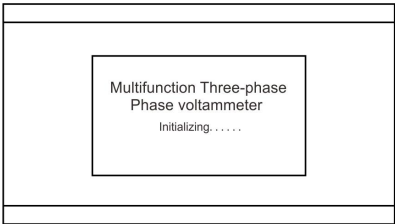
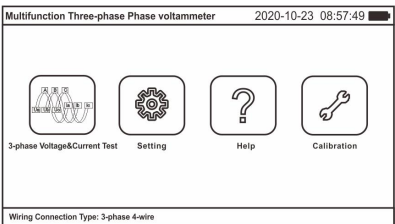

Figure5 Initialize interface
Figure6 Main interface
6.1.1.Power on. The meter is power off state, press the power key to start on, and enters the start-up interface, as shown in Figure 5. After the initialization is completed (about 5 seconds), enter to the main menu interface.After the meter power on and enter the main menu interface, just click the corresponding function icon to enter the corresponding function option (the calibration function belongs to our calibration personnel and is not available to users). As shown in Figure 6